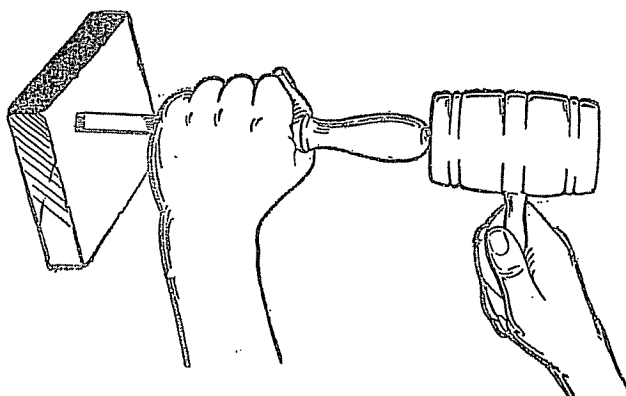

Fig. 10
**USING THE Mallet IN CHISELING.** (See Fig. 10, showing how to hold the chisel when using the mallet.)